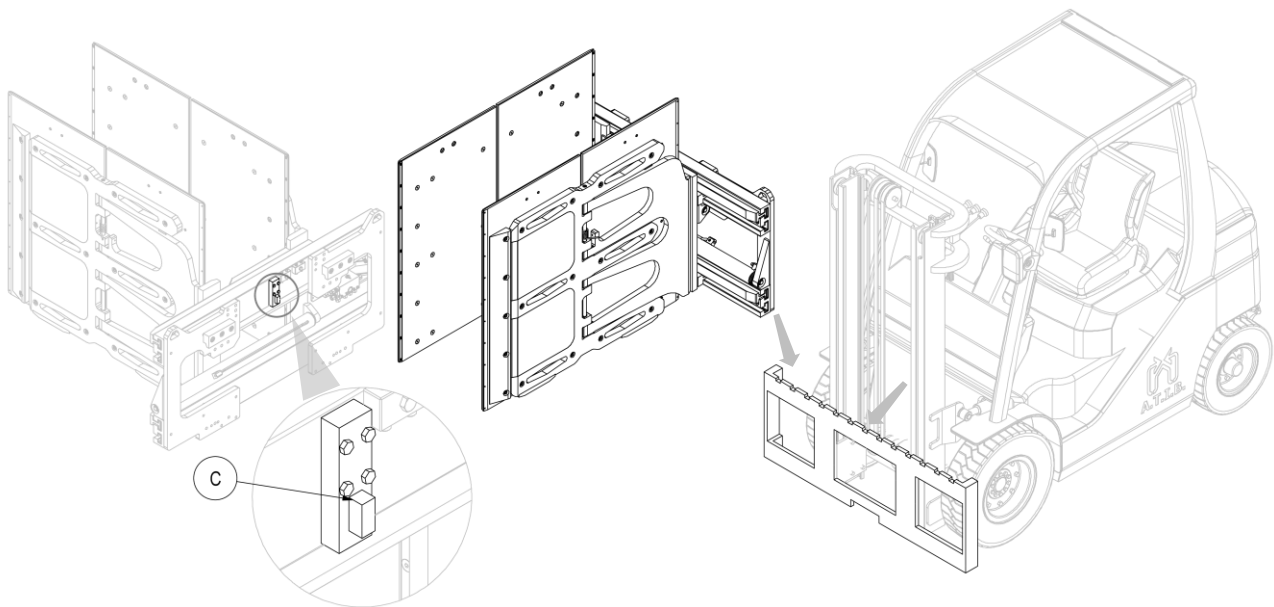

Figure 3
6. Then hook on the equipment using an overhead crane or a hoist of sufficient capacity and position it on the fork carriage, taking care to fit centring pin **C** into the central notch on the fork carriage (see *Figure 3*) and taking care to handle it in a suitable and safe manner.